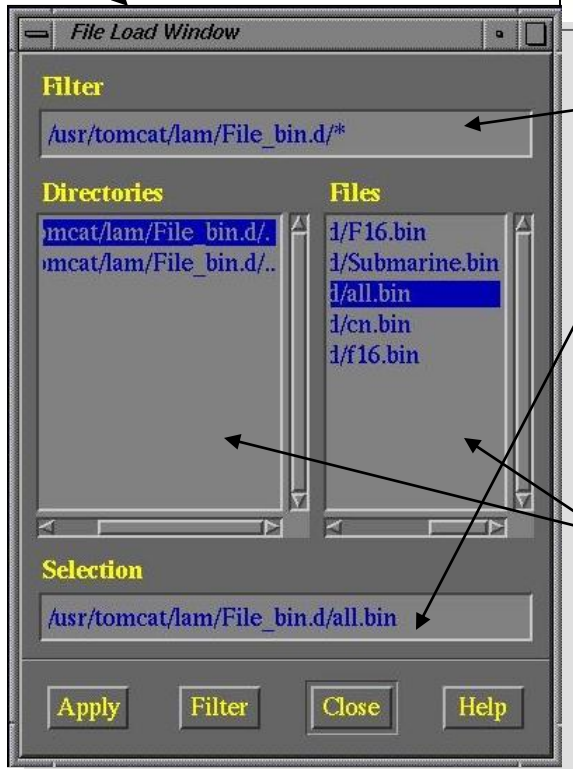

Fig. 3.4
Figure 3.4 shows the File Load Window.
- With the keyboard enter the directory path (including “/*” at the end of any directory path) in the “Filter” prompt box at the top to the window as shown in figure 3.4. The user can then either push on the “Enter” key of the keyboard or click with the mouse on “Filter” at the bottom of the window next to the “Apply” button as shown in figure 3.4.